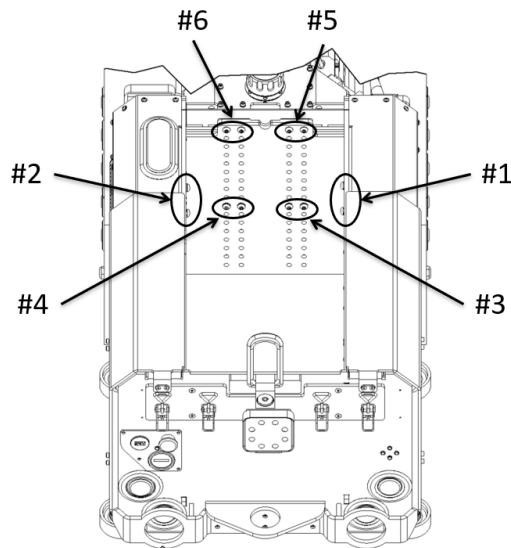

Figure 13 : Removing the rear compartment bolts
4. Unbolt the rear compartment by removing the 12 bolts that fasten it to the frame. Follow the order specified in the Figure 13.
7. When the compartment is at the desired height, reinstall the 12 bolts removed at the step 4. Make sure that the rear compartment is parallel to the back of the oil tank and that the holes are correctly aligned before screwing any bolt. The bolts must be installed in the reverse order of the Figure 13 to facilitate the assembly. Refer to the Table 1 to apply the right torque when reinstalling the bolts.